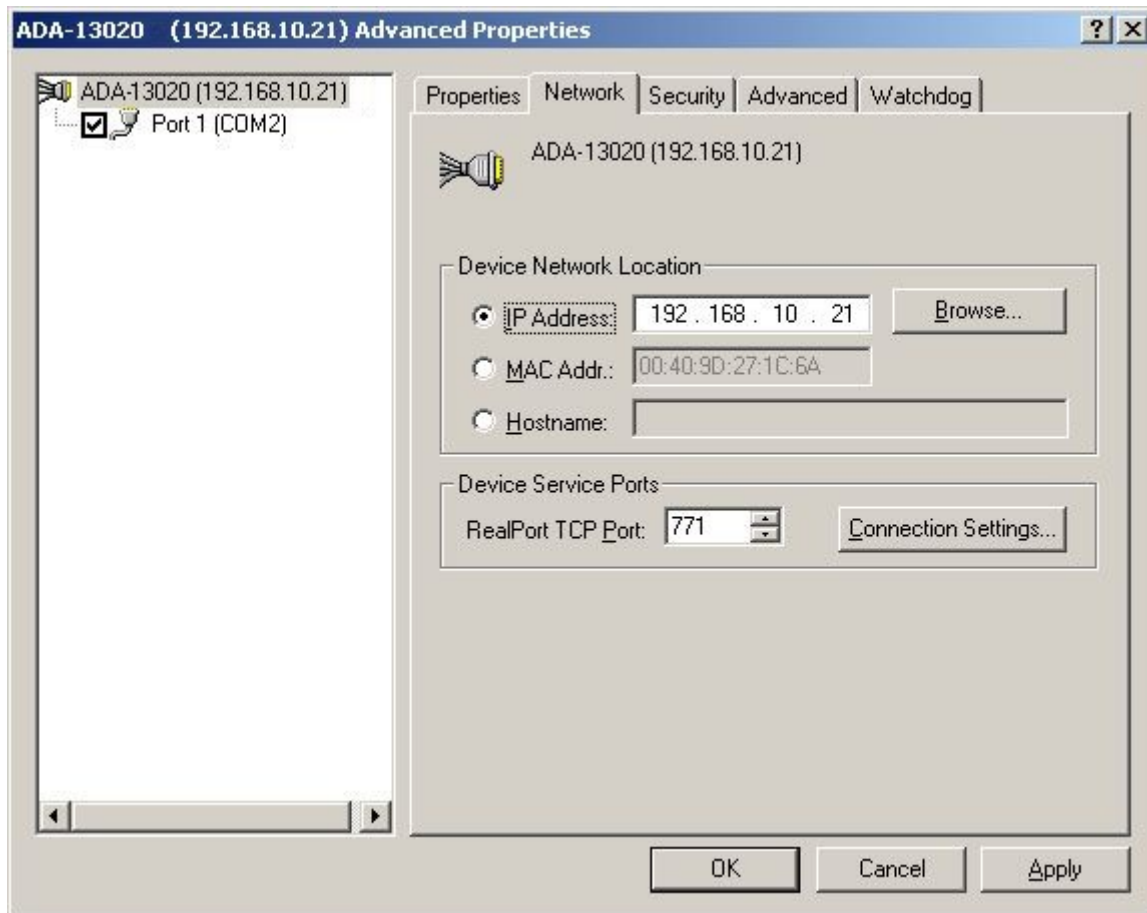

Fig. 30. Example configuration of multi-port serial adapter
8. **Select IP address, MAC, DNS server for communication with virtual port driver**. In the window **[ Advanced Properties ]** click **[ADA-13021]** and then select **[Network]** (Fig. 30), and set the **IP address, MAC Address** or **DNS name** of the wireless serial server for communication with virtual port driver.